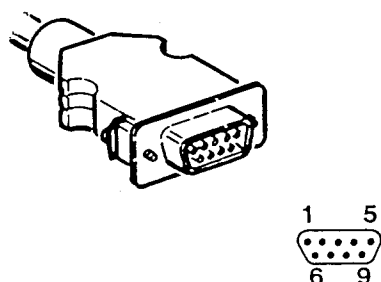

Figure 2-3. D-Type Signal Connector
**Video Signal Cable** — A 4-foot cable, terminated with a 9-pin, D-type connector, supplies video and sync signals to the monitor. The cable is attached to the monitor and is not detachable. Figure 2-3 illustrates the D-type connector. Table 1-1 lists the connector signals for each mode of operation.